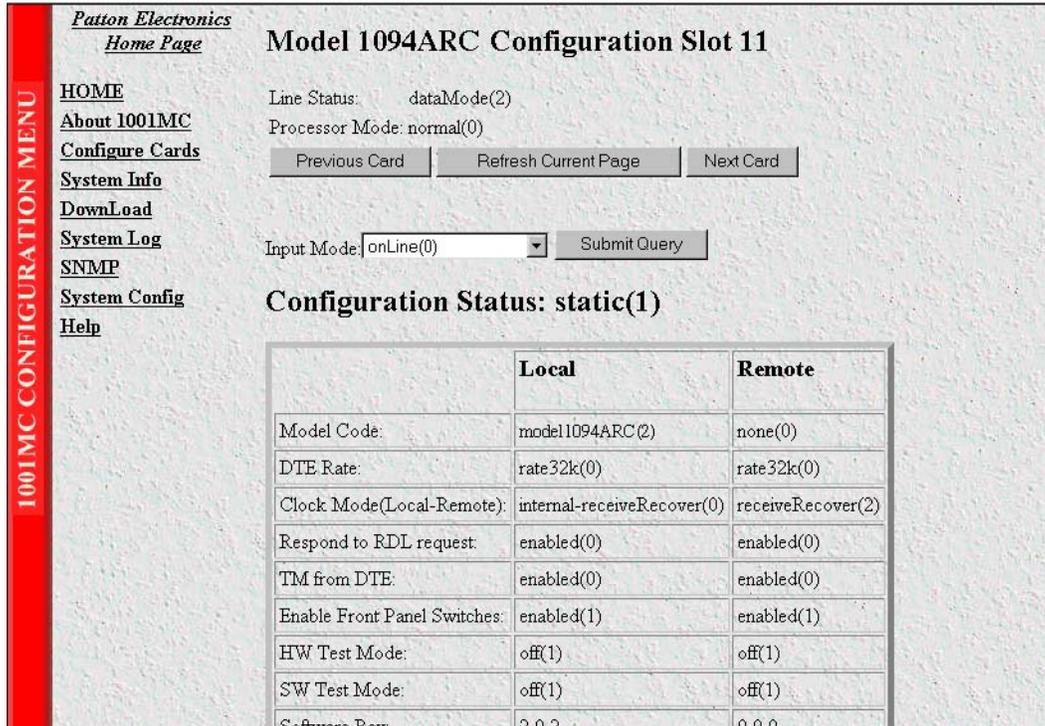
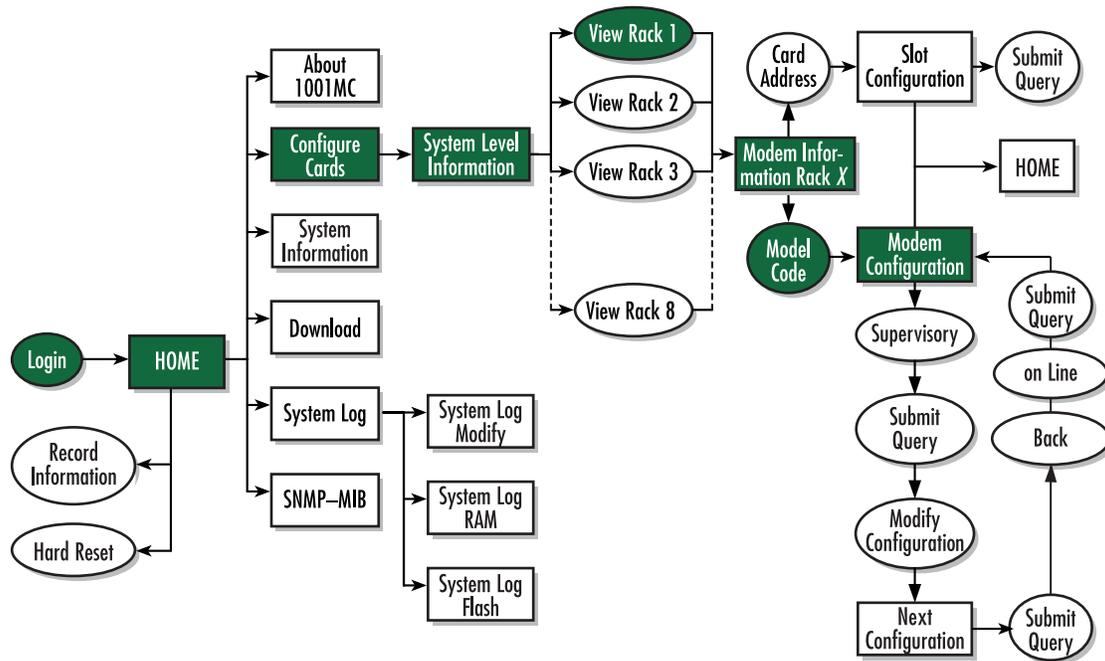

Figure 30. Model 1094 Configuration Slot page
Figure 31. Web page navigation to Model 1094 Configuration Slot page
The Model 1094 Configuration Slot page (see figure 30) enables you to make configuration changes to the Model 1094A and the remote CPE box. When the page displays, the unit is set to the *onLine* state and the current configuration is displayed.
Starting from the HOME page, to access the Model 1094 Configuration Slot page for the 1094ARC, click on the following links: *Configure Cards > View Rack 1 > Local_Model_Code* for the 1094ARC you wish to manage (in the example shown in figure 30, the 1094ARC was installed in slot 11). Figure 31 on page 73 shows the web page navigation required to get to this area of the system.
1. With the Model 1094 Configuration Slot page displayed, change the Input Mode (see figure 30) to superVisoryMode. The Modify Configuration hyperlink will appear.